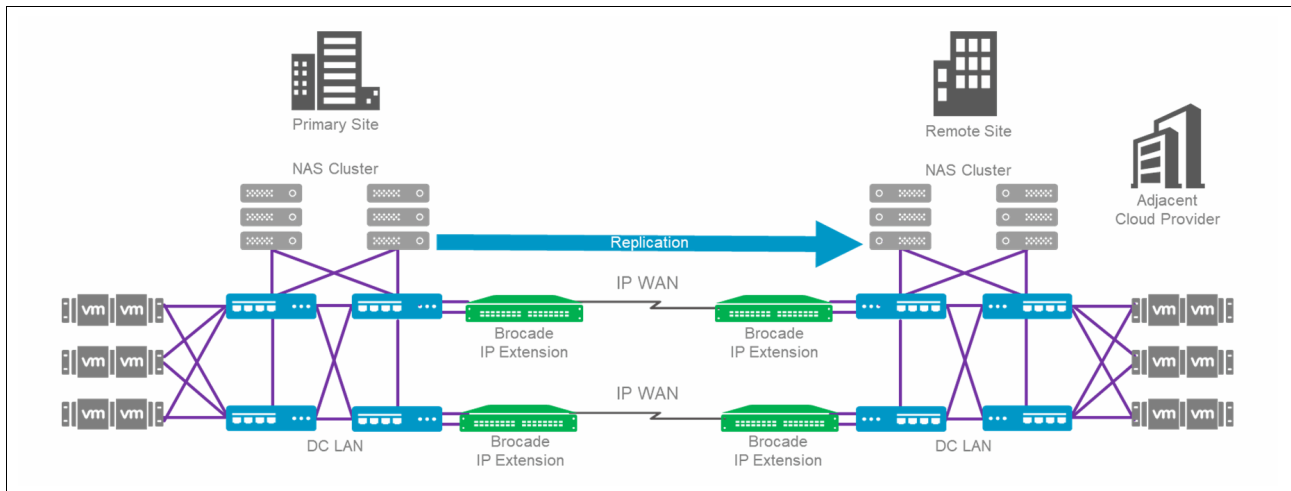

Figure 8-7 IP storage over IP extension
Figure 8-7 shows a high-availability and secure architecture that is used in a virtual machine (VM)-NAS environment that replicates traffic between a primary site and a cloud site. The cloud site provides compute elasticity and DR. The data is quickly replicated to maintain a coherent Recovery Point Objective (RPO).